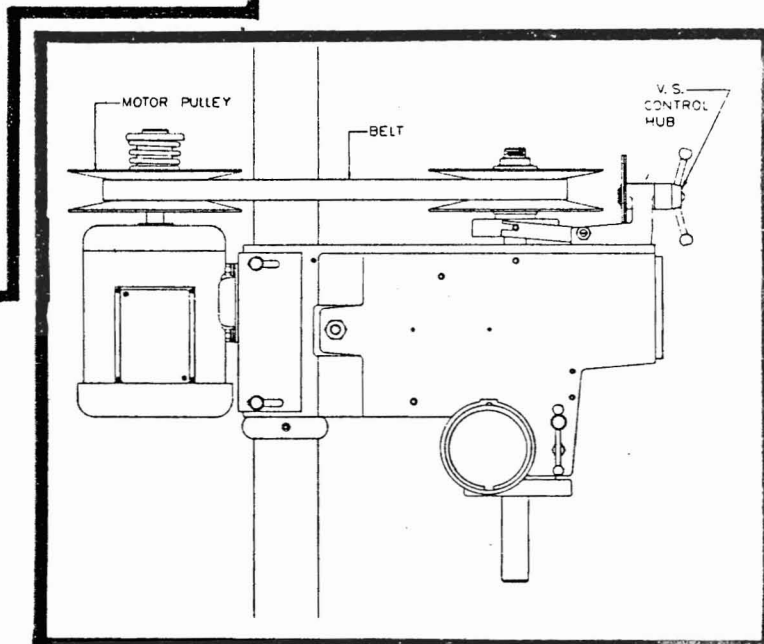

FIGURE 4
- d. Before replacing guard — temporarily replace variable speed control hub (Fig. 4). Turn machine on. The belt should be in a horizontal plane. If belt is cocked at an angle, shut off the motor, loosen motor pulley and move on shaft until belt is level. Secure setscrew. (See section on changing speeds for setting speed range.)
If spindle speed does not appear to match the dial speed on variable speed unit - - check speed with a tachometer and adjust by unlocking the setscrews in the upper sheave half and turning the top nut on the spline drive (see Fig. 4) clockwise to decrease speed and counterclockwise to increase speed.